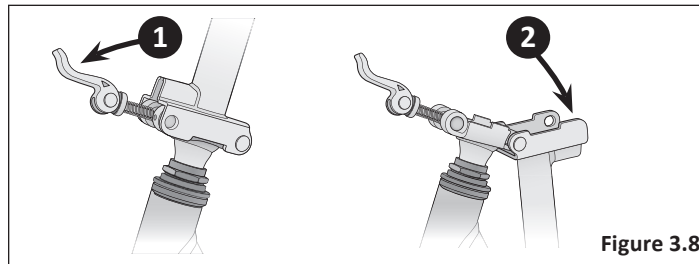
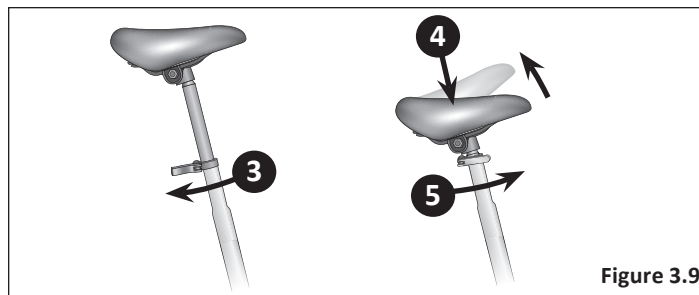
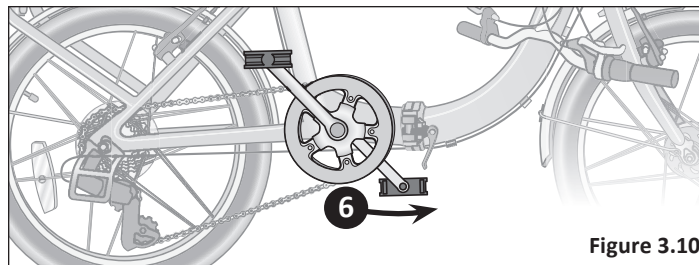

Figure 3.8
Figure 3.9
Figure 3.10
- ❶ Start by opening the handlebar post quick-release lever and moving it down out of the slot on the base of the handlebar post. **Note:** The quick-release lever must be moved completely down to retract the locking pin, slide sideways and release the handlebar post. **Figure 3.8**
- ❷ Move the handlebar post into the folded position: upside down and flush against the front wheel. Be sure the front wheel stays parallel to the frame. **Note:** On some models the handlebar post folds to the outside.
- ❸ Next, unlock the seat post quick-release lever. **Figure 3.9**
- ❹ Lower the seat post, and turn the seat 45 degrees to the left.
- ❺ Close the quick-release.
- ❻ Raise the kick stand and rotate the crank arms so that the left crank is pointed forward and down at a 45 degree angle. **Figure 3.10**